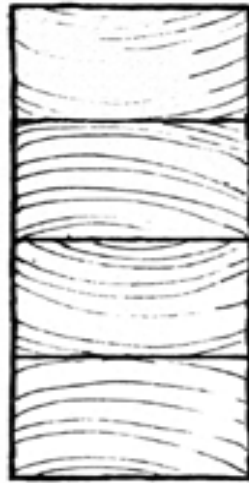
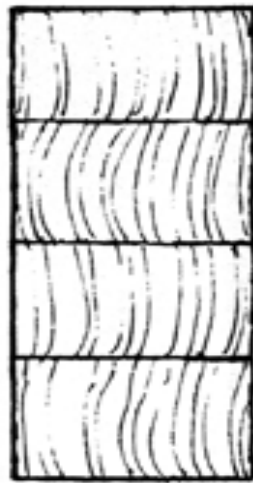
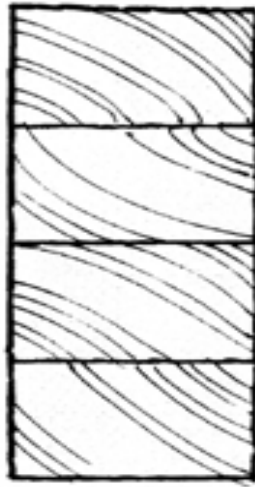

FIGURE 3.
FIGURE 4.
FIGURE 2.
4. Choose the best way to line up the grain for your pieces from **Figure 2**, **Figure 3**, or **Figure 4**.